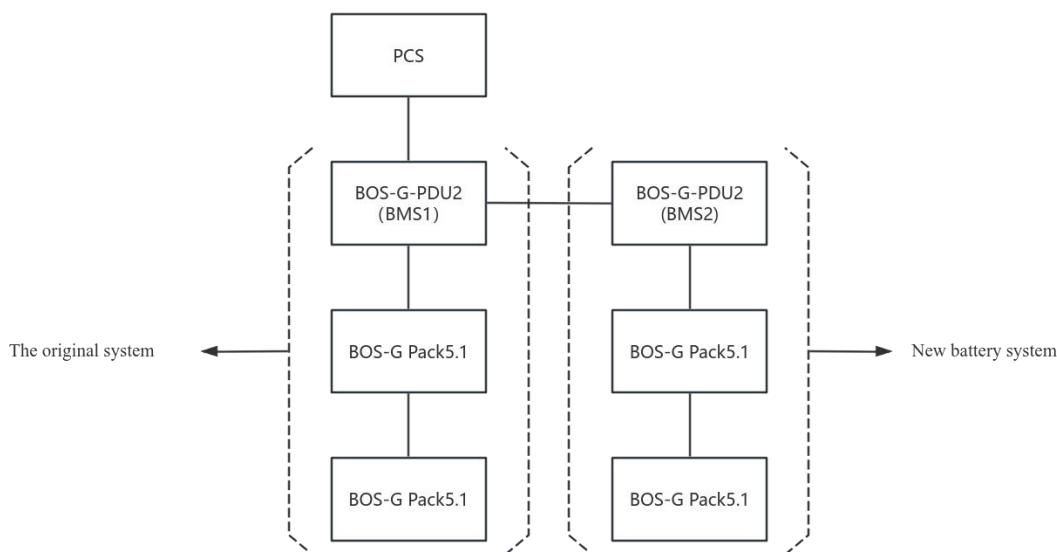

Figure 2 Network diagram
Step 1: Verify the battery serial number (SN). If the manufacturing date difference between the new and old batteries is within two years, capacity extension is allowed.
Step 5: Please attach a terminal resistance to the out port of the last HV box when confronting a parallel communication issue. (The last HV box is BOS-GPack5.1-PDU(BMS2) as figure 2)